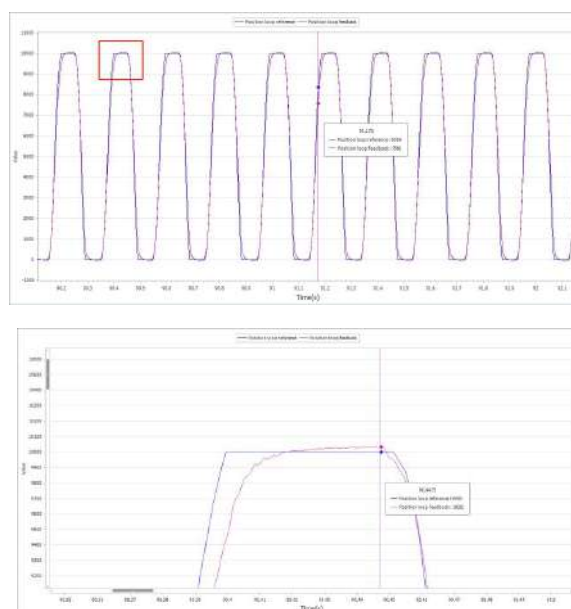

Figure 5-6 Waveform Zoom
1) Waveform magnification observation. By holding down the keyboard shift key and pulling through the mouse box, you can zoom in on the selected part of the waveform, as shown in Figure 5-6. If you want to cancel the zooming, click the right mouse button to undo the zooming function.